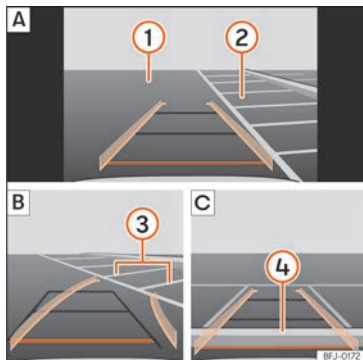

Fig. 216 Display on the Infotainment system screen.: parking with reverse assist.
Key to the **Fig. 216**:
- Place the vehicle in front of the parking space **» Fig. 216 ② A**.
- Reverse while turning the steering wheel so that the yellow lines enter the parking space. The green and yellow lines must match the side boundary lines **③ B**.
- Stop the vehicle when the red line has reached the rear boundary **④ C**.